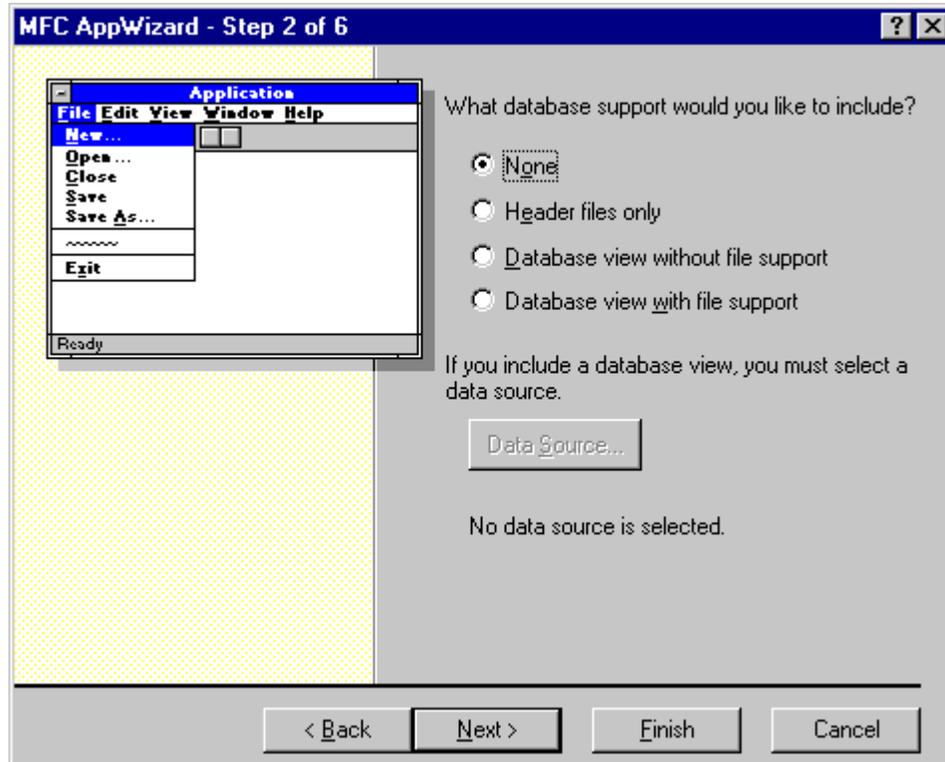

Figure 7 MFC AppWizard – Step 2
5. The next dialog you will see is the MFC AppWizard – Step 2 of 6 dialog. You do not need to make any changes to the options in this dialog. It should look like the one in Figure 7. Push **Next**.